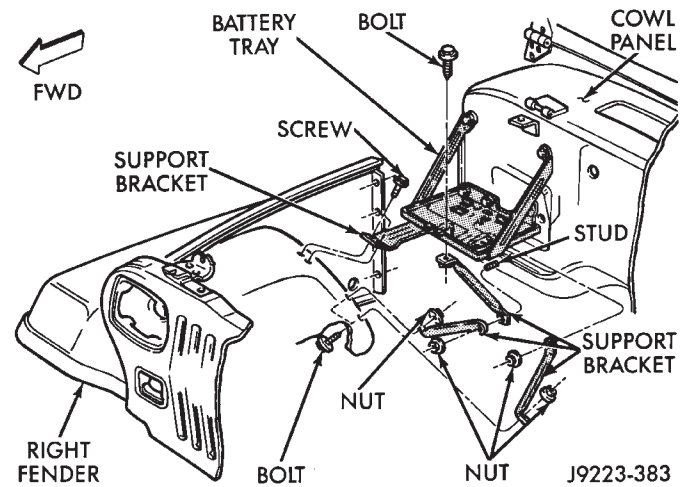

Fig. 32 Battery Tray Support Brackets
- (6) Remove the screws that attach the battery tray support brackets to the right fender inner panel (Fig. 32).
(4) Install the battery tray support bracket-to-right fender inner panel screws (Fig. 32). Tighten the screws to 18 N·m (156 in-lbs) torque.